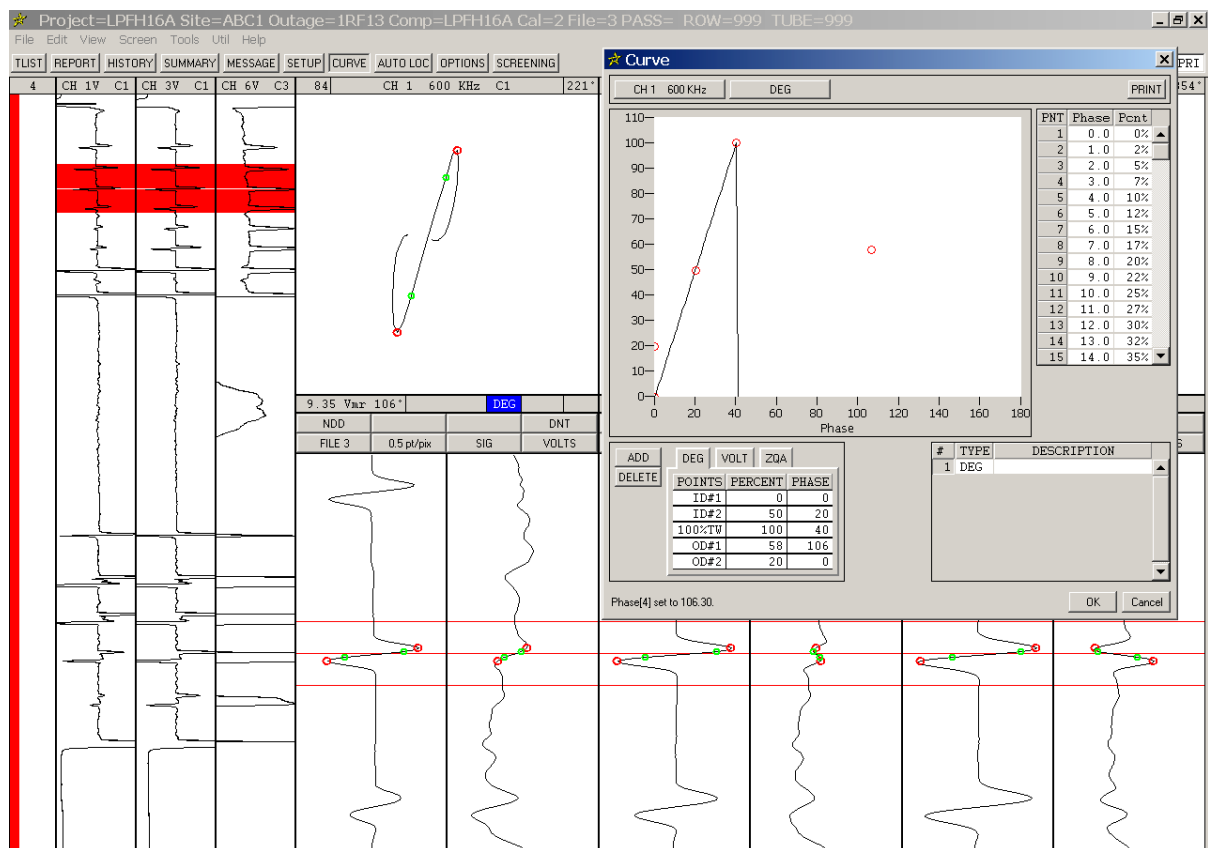

Figure 1-20. Analysis Screen - Curve Dialog - Entering the As-built Depth of a Calibration Flaw
STEP 23: Click in the **Phase** field for **OD#1** on the **DEG** table. The phase measurement ($\sim 106^\circ$) of the **58% FBH** signal for **CH 1** is automatically entered in the field as shown in Figure 1-20.